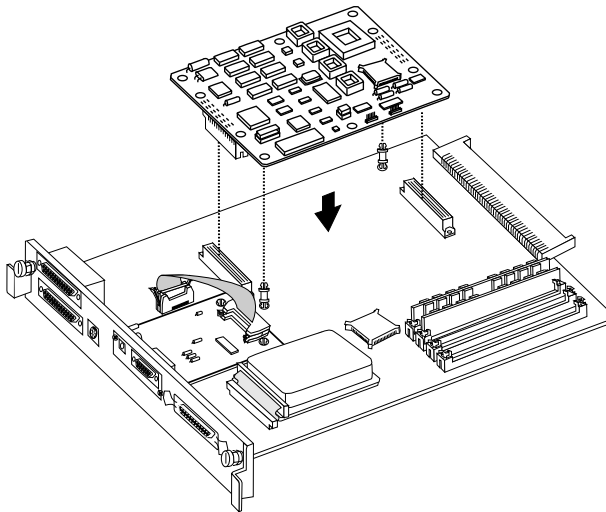

Fig. 8.20 *Attach the Daughterboard to Support Posts*
8. Attach the daughterboard to the two support posts and the two 48-pin connectors (fig. 8.20). (The daughterboard is keyed so that it fits only one way.)